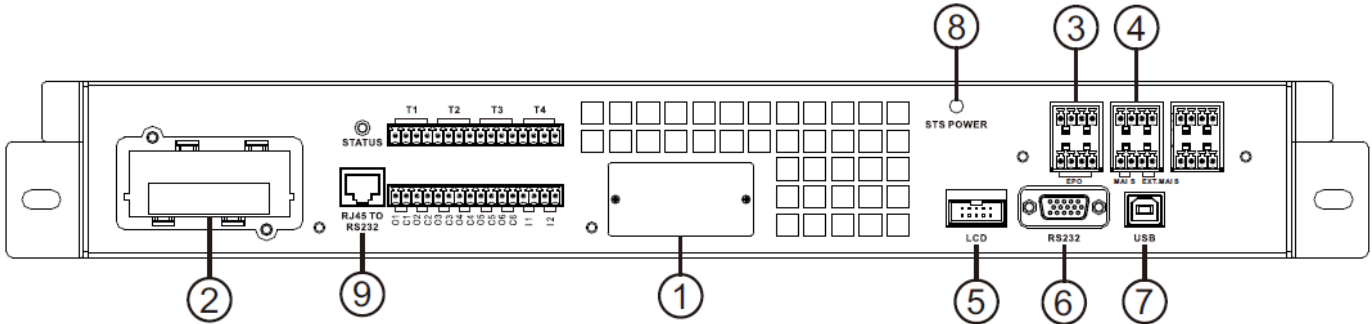

Figure 5-1 Front view of Monitor module
As shown in figure 5-1, the Monitor Module includes dry contact ports (③~④), Extra Comm. slot, SNMP slot, LCD connection port, STS Power LED and serial communication ports (RS232 port, USB port, RJ45 to RS232 port) on the front panel.